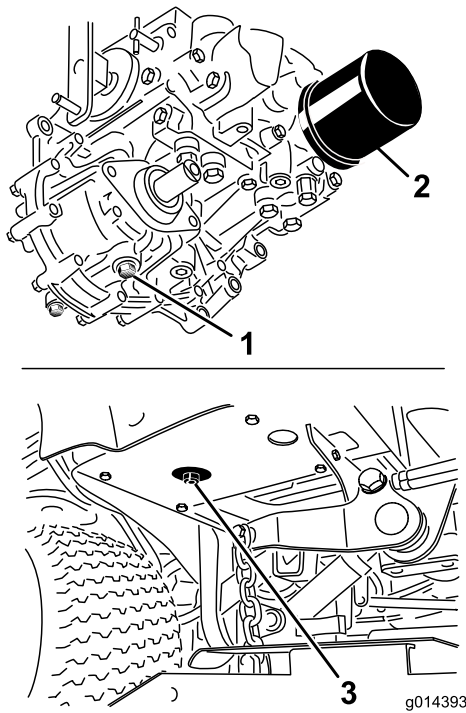

Figure 69
3. Place a large pan under the hydraulic reservoir and transmission case and remove the plugs, draining all of the hydraulic fluid (Figure 69).
4. Clean the area around the hydraulic-fluid filter and remove the filter (Figure 69).